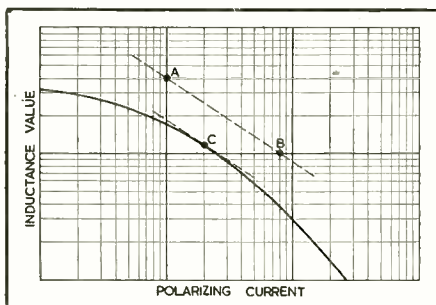

Fig. 9. By plotting inductance against current on log/log paper, the intended operating point can be located, and a useful record made for later reference.
If the inductance for various values of polarizing current is plotted, for small currents compared with that for which the core gap was intended, change of current will have only small effect on inductance; at larger values, it will cause the inductance to fall off more rapidly. If the design value of polarizing current is not known, a good method of finding it approximately is to plot inductance and current on log/log paper, as shown at Fig. 9. By connecting two points on the paper representing 4:1 inductance ratio and 1:8 current ratio, for example (A) and (B), find the 2/3-power slope. The designer's operating point is approximately where the inductance/current curve is tangential to this slope, as at (C). It is never economic to work at currents appreciably higher than this point, because inductance could